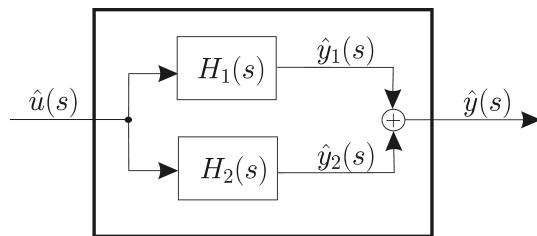

Figure 4.4: Two systems in parallel
- 2) Let us place the two systems of transfer functions  $H_1(s)$  and  $H_2(s)$  in parallel as shown on Figure 4.4.